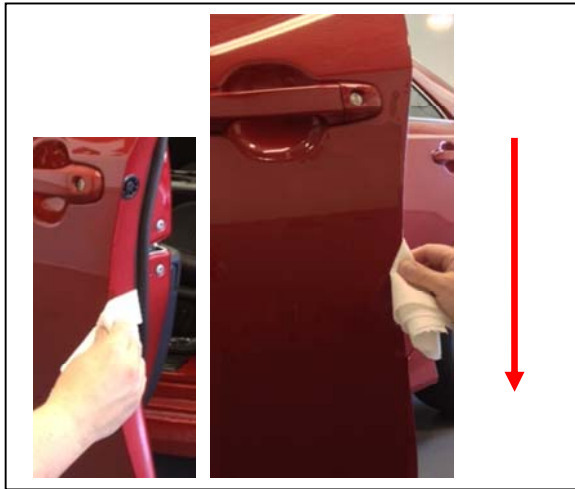

Fig. 1-2
- (2) Using a second lint free cloth, thoroughly dry the area free of Simple Green (or VDC approved cleaner) previously applied. In some instances a rubber weather seal may be found – ensure to clean between the trailing edge and the rubber seal (Fig. 1-2). Turn the cloth repeatedly to attain a dry surface.